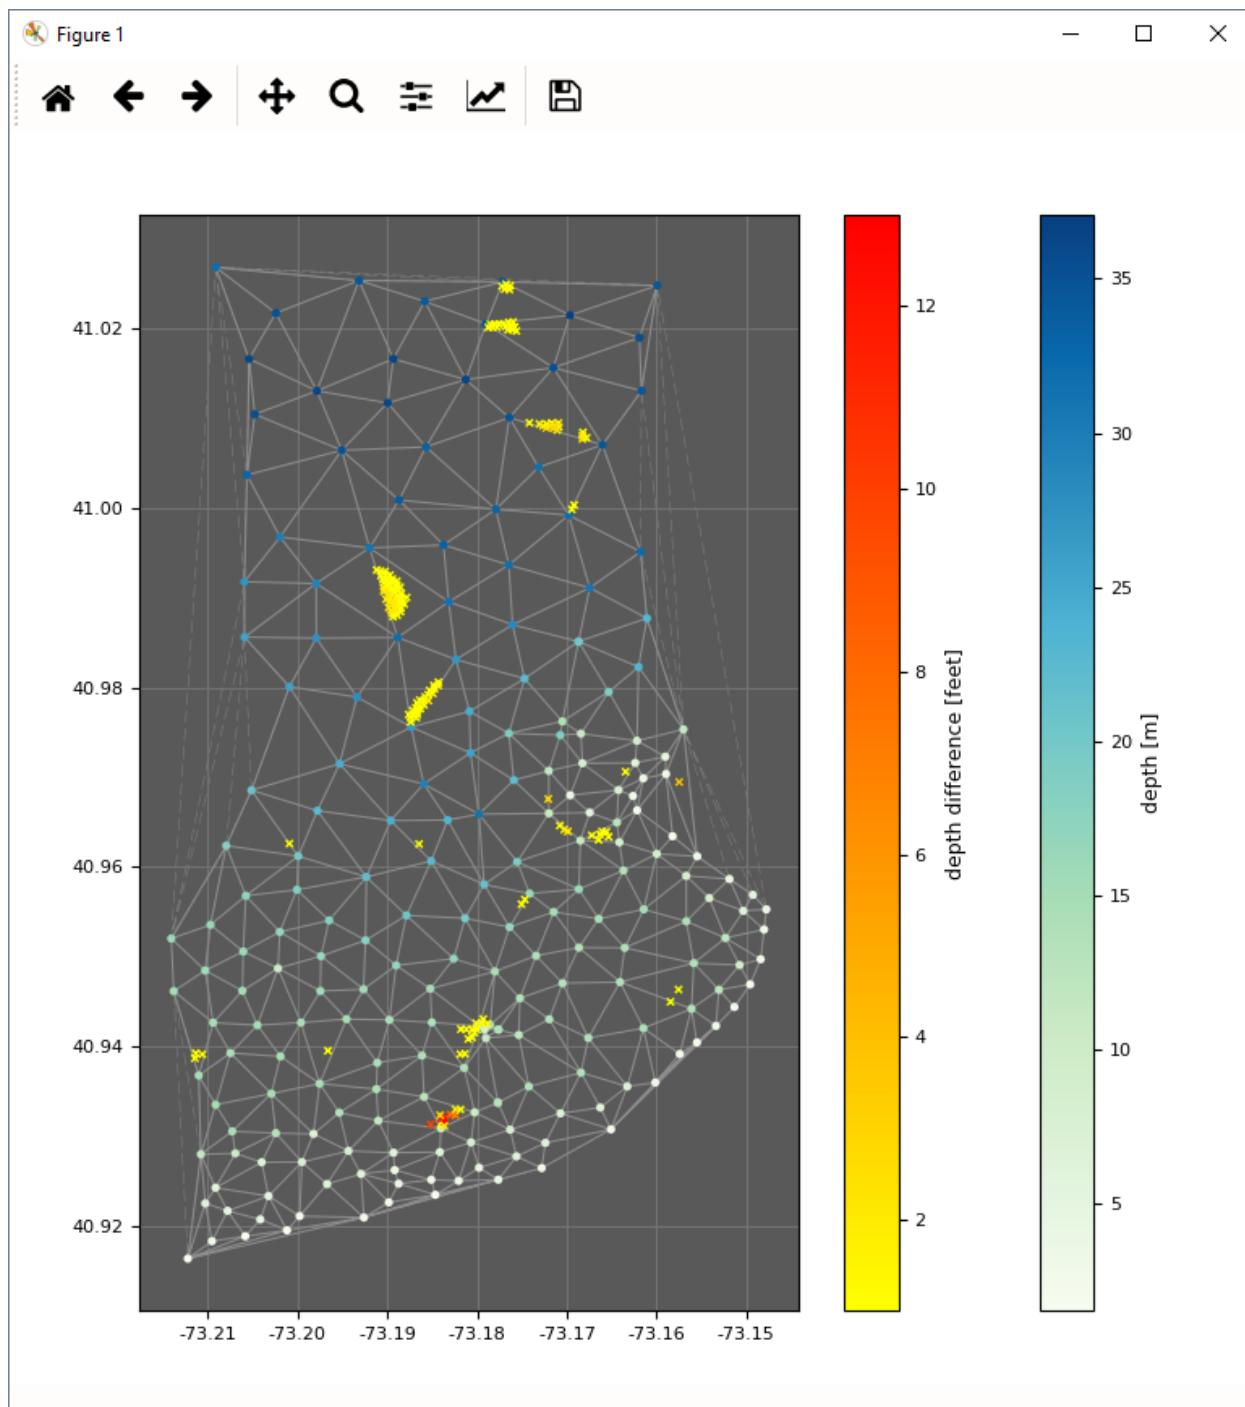

Fig. 2.72: Triangle rule's output display.
- After executing, the results are also shown graphically (Fig. 2.72). Chart-scale soundings are colored by depth, and flagged survey-scale soundings that may not be adequately represented are colored by their discrepancy.